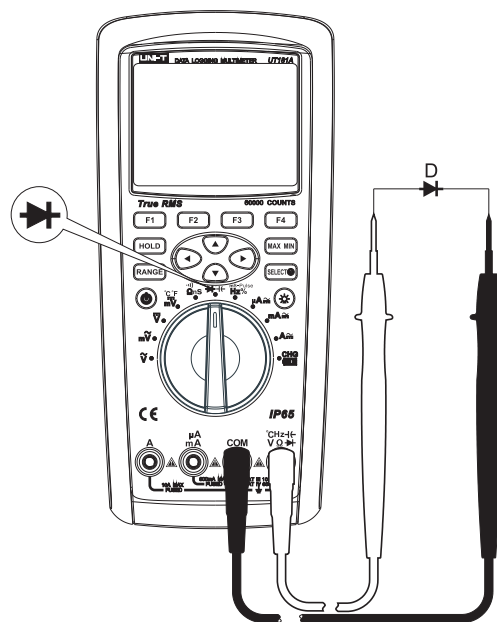

Figure 10
- 2) Set the rotary switch to the measurement $\rightarrow$ $\leftarrow$ and the diode measuring mode $\rightarrow$ is default. Connect the test leads to both ends of the measured diode as shown in Figure 10. Directly read the approximate forward PN junction voltage of the measured diode on the display.